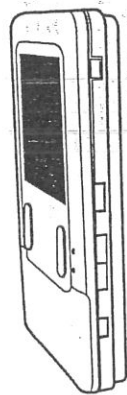

Fig. 2 – Evolution™ Control
**MOUNTING Evolution CONTROL** — There are two options for mounting the Evolution Control to the wall. First, become familiar with all plastic assembly pieces shown in Fig. 2 through 9. The User Interface will snap together with either the Recess Mount or the Surface Mount backplate.